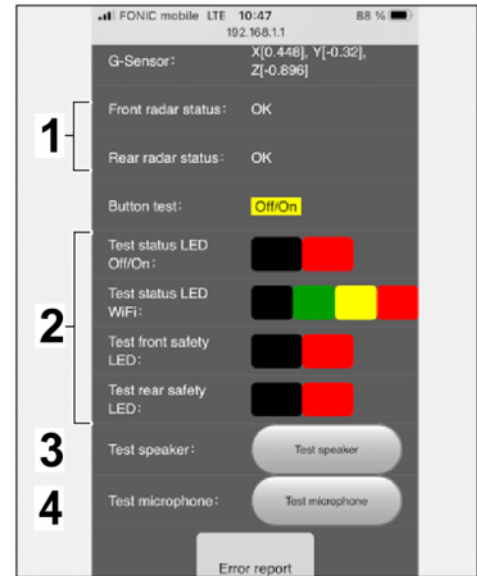

Figure 28
6.3 Display of radar status, possible tests for LED lights, loudspeaker and microphone (⇒ *Figure 28*)